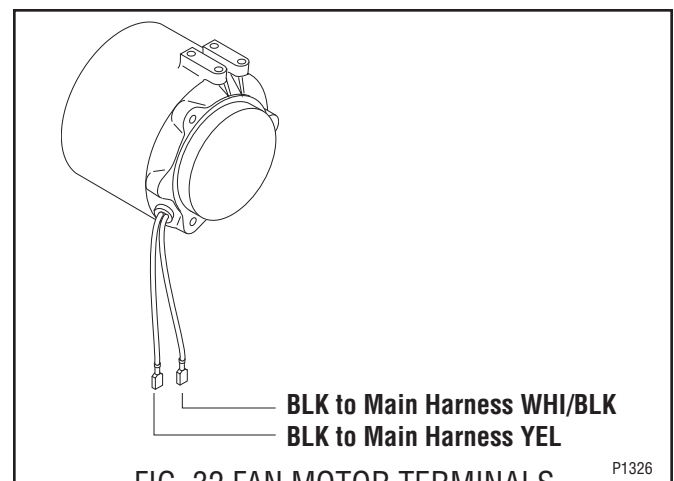

FIG. 32 FAN MOTOR TERMINALS
9. Install silencer (4) on new motor assy.
10. Install fan (3) on new motor assy.
11. Install speed nut (2) on new motor assy.
12. Using three #8-32 thread forming screws secure new motor assy to shroud/mount (6).
13. Using three #6-32 thread cutting screw new motor and shroud/mount to the condenser shroud (7).
14. Using two #8-32 locking screws secure condenser shroud and fan assy (1) to the chassis base.
15. Using four #8-32 crimpite screws secure the condenser shroud and fan assy (1) to the condenser.
16. Refer to Fig. 32 and reconnect the leads on the new motor to the dispenser wiring harness.